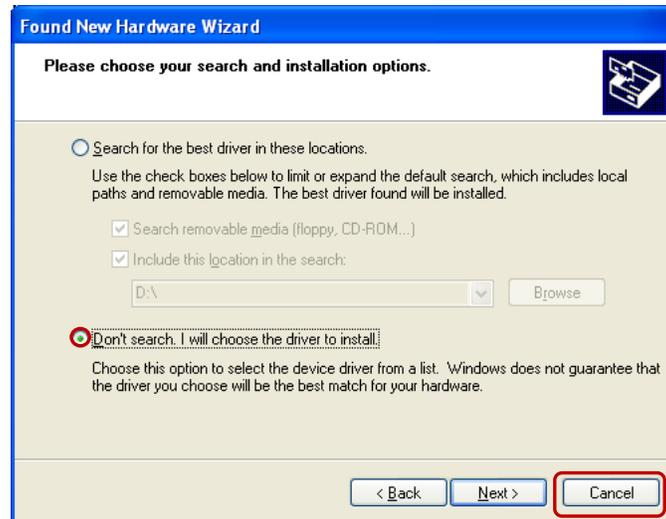

Fig. 8
4. Select > “Don’t search. I will choose the driver to install.” and press > “Next” as shown in Figure 8.